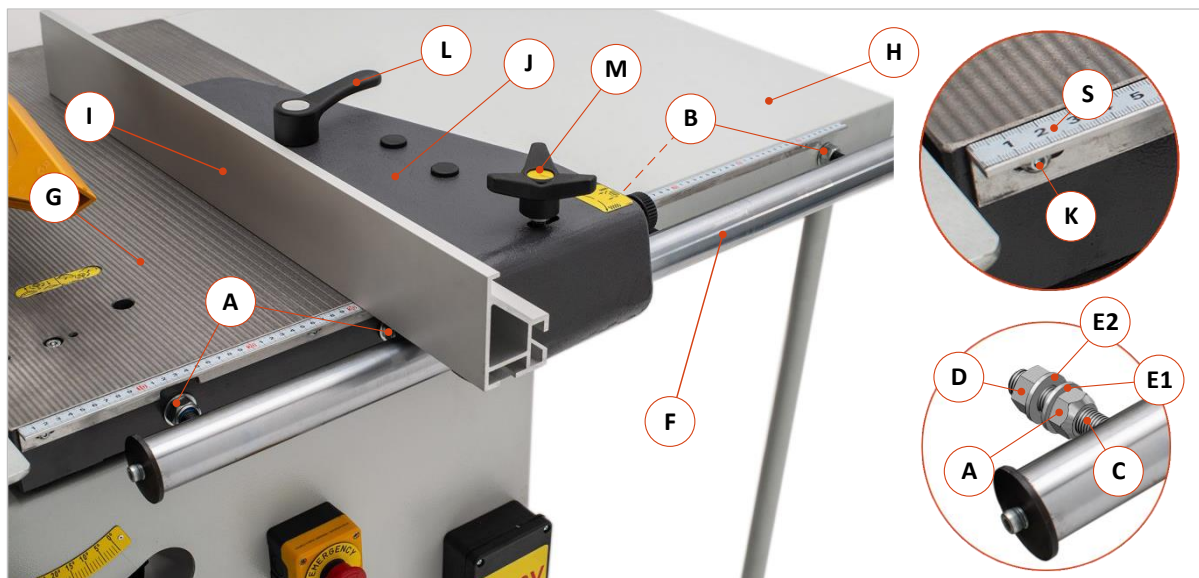

Figure 43: Mounting the rip fence
- To do this, loosen the clamping handle (M) and push the fence all the way back.
- To fold the fence all the way down (270°), move it so that it cannot rest on the rear threaded bolt (C) shown in ⇒ Figure 43.